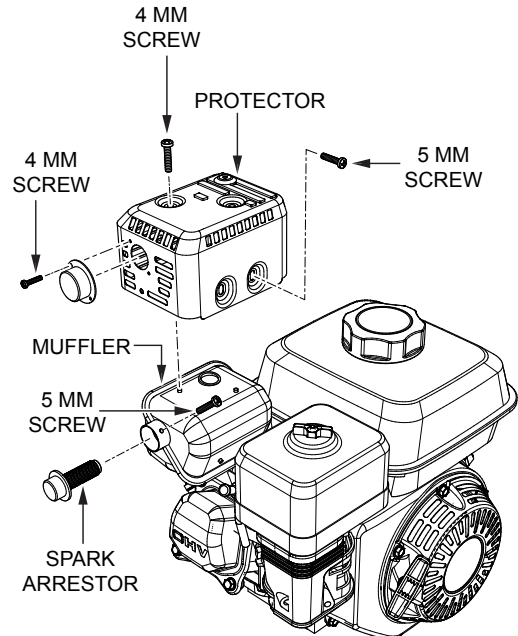

**Figure 30. Engine Air Cleaner**
1. Remove the air cleaner cover and foam filter element as shown in Figure 30.
2. Tap the paper filter element (Figure 30) several times on a hard surface to remove dirt, or blow compressed air [not exceeding 30 psi (207 kPa, 2.1 kgf/cm2)] through the filter element from the air cleaner case side. **NEVER** brush off dirt. Brushing will force dirt into the fibers. Replace the paper filter element if it is excessively dirty.